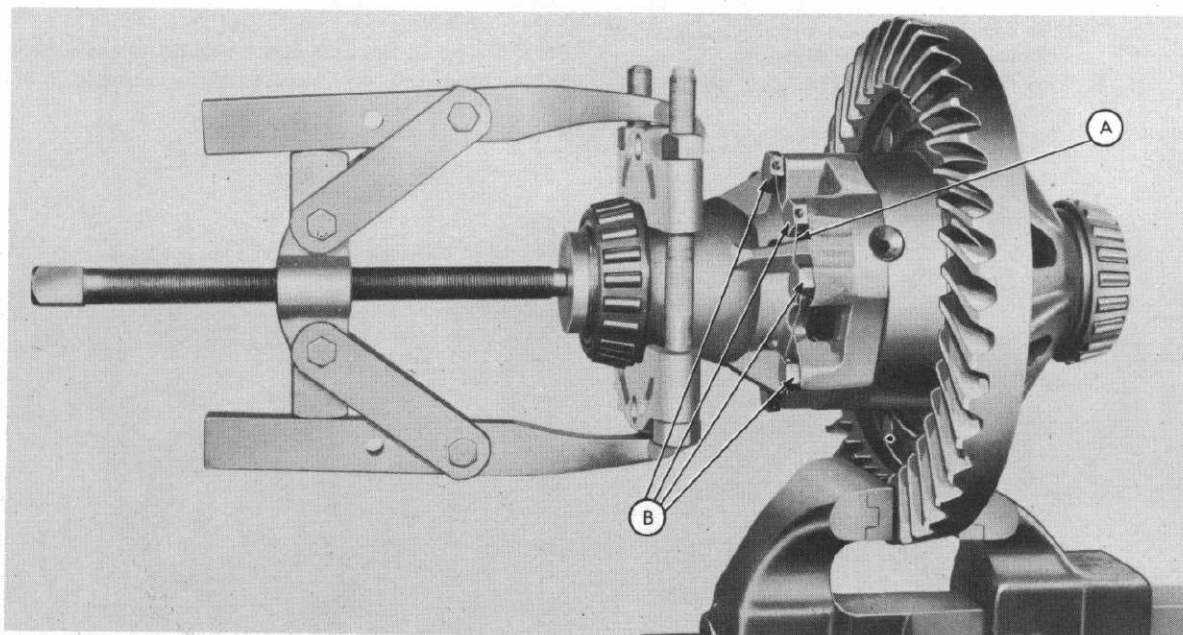

Fig. 1
- Step 1—Remove the differential bearings as shown in Figure 1.
- Step 2—Remove the wire (A-Figure 1) from the eight differential case cap screws and remove the cap screws (B-Figure 1).